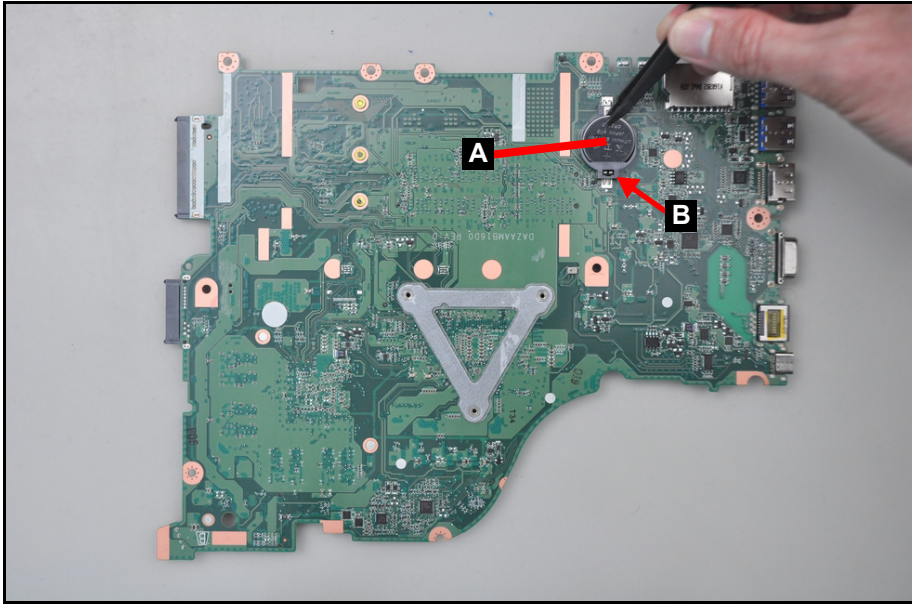

Figure 3-94. Replacing the RTC Battery
1. Place and secure the RTC battery (A) to its compartment on the mainboard. Make sure that the RTC battery (A) comes into contact with the mainboard connector (B) (Figure 3-94).